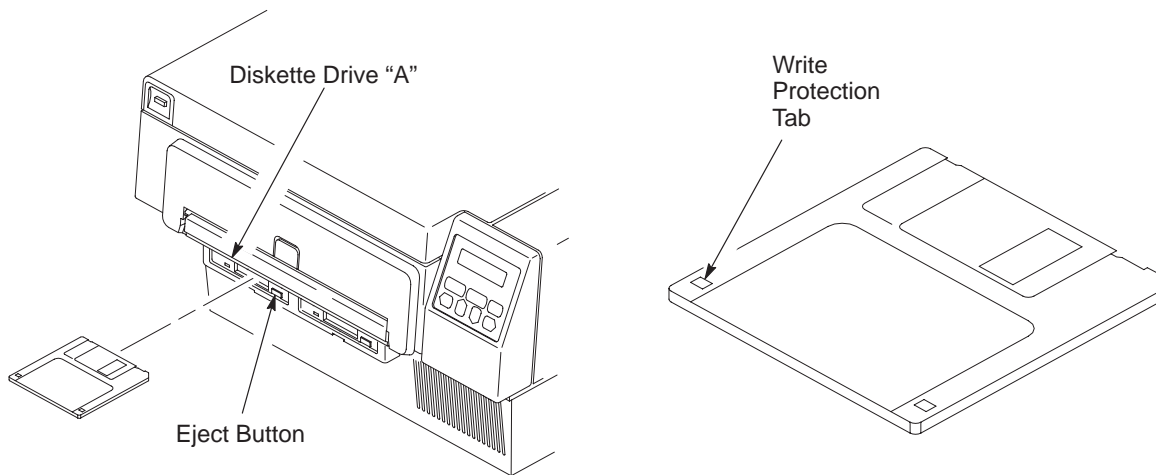

Figure 2–12. Installing the Diskette
5. If you are installing a font diskette, insert the diskette into drive B. Make sure this diskette is not write-protected. (The tab must be closed as shown in Figure 2–12.)